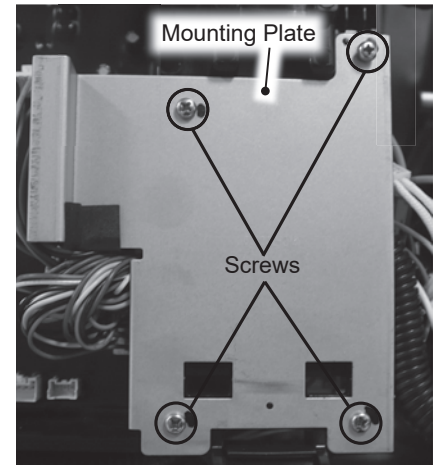

Figure 19 - Mounting plate screw removal.
7 Locate the four (4) screws securing the metal mounting plate. See Figure 19. Use a Phillips screwdriver to remove the screws. Place screws and mounting plate aside in a safe place for reinstallation.
36 Reinstall the metal mounting plate using the four (4) screws removed in **Step 7**. See Figure 19.